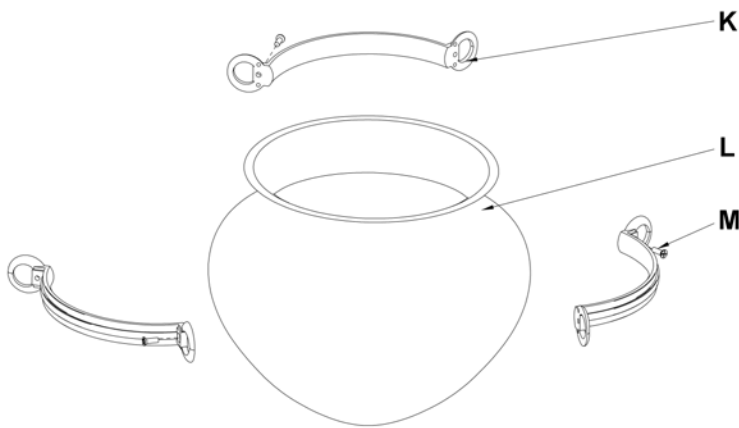

Figure 2
To Install Glass (Figures 2 & 3)
- K Bands (3)
- M Screws (3)
- N Hooks (3)
1. Attach bands (K) to glass (L) by placing band sections around lip of glass and securing with countersunk screws (M) (Figure 2).